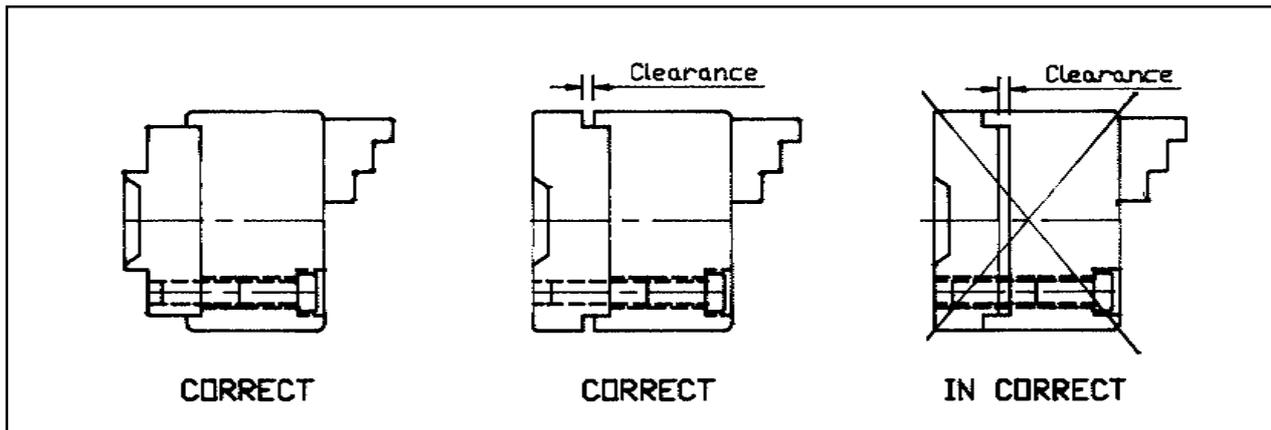

Fig No.3.
- 5.3) The chuck should not be mounted against the outer edge (see fig No.3) of the chuck flange. Ensure face butting of the flange with the chuck location face.